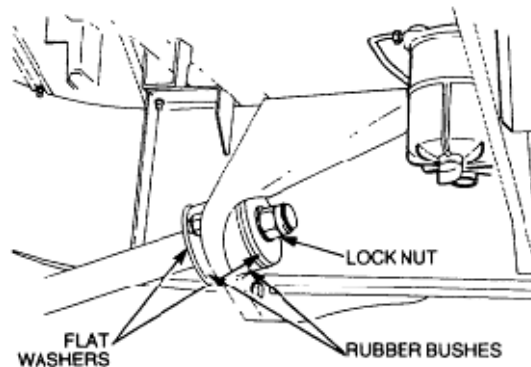

Figure 132 Bottom Link to Chassis Bracket Connection
- e. Remove the locknut and flat washer, securing the bottom link to the chassis bracket (Figure 132). Discard the locknut.